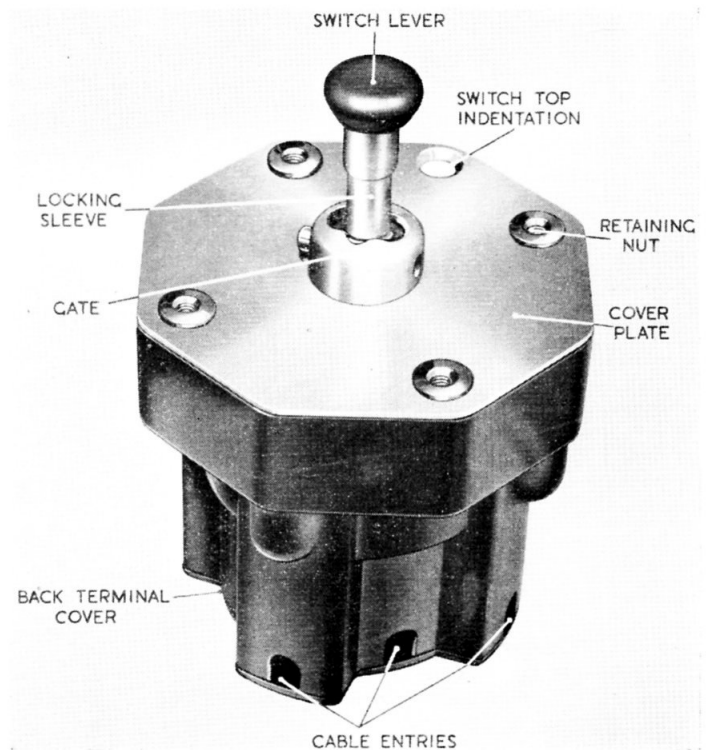

Fig. 1. Type D.4601 switch
2. The top of the switch is indicated by a deep circular indentation on the cover plate, and a provision for its acceptance on the moulded body. When installed on the dashboard, this marking must be uppermost. All references in this chapter to switch lever positions and component positions assume that the switch is in this "upright" position (fig. 1).
3. The switch consists of a moulded body incorporating four toggle type snap switches, each two diametrically opposite each other being at right-angles to the other two. There are two cover plates, one moulded and covering the terminals of the wiring connections at the rear of the main switch, and the other of metal integral with the switch lever arm assembly complete. (Fig. 1, 2 and 3.)
spring-loaded locking sleeve which can pass the "gate" on the top cover in the up, right and left positions and so operate the desired toggle switch. Owing to the design of the "gate", the down position cannot be selected until the switch lever is extended against its spring to enable the locking sleeve to pass over the "gate" entry. (Fig. 1.)
should be made to fig. 1, 2, 3 and 4. Inspection should then be carried out in the following sequence.